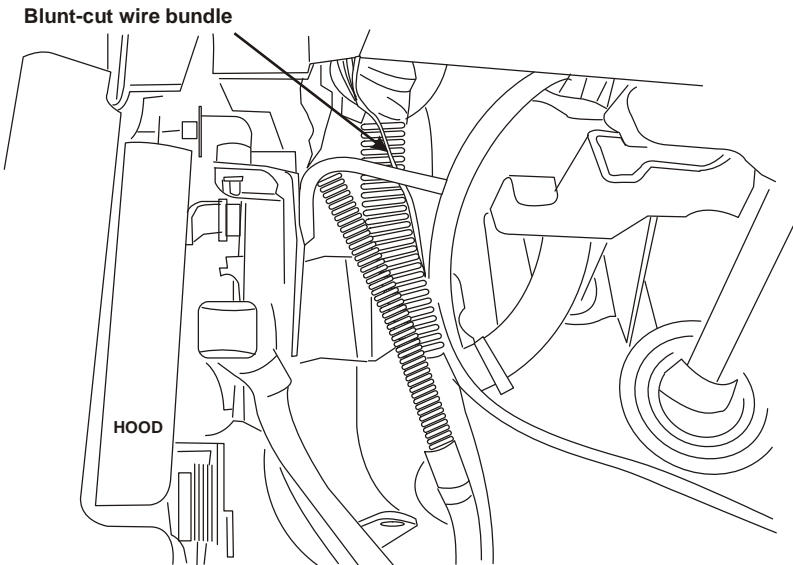

Figure 1.1
- Locate the blunt-cut OEM wire harness, on the driver's side just below the OBDII port (Figure 1.1). You will need to find the following wires: